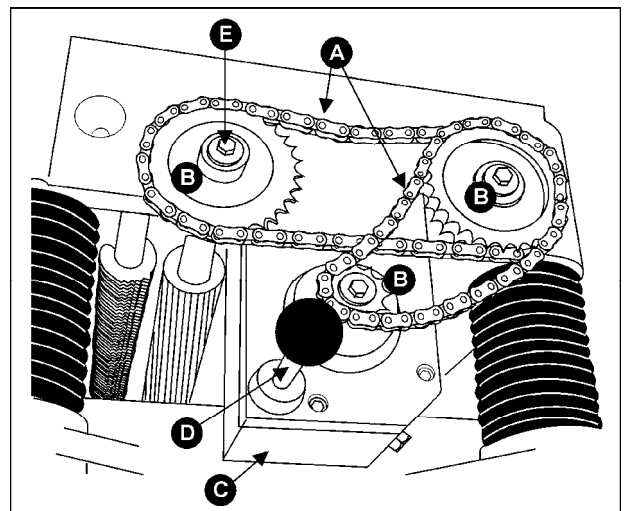
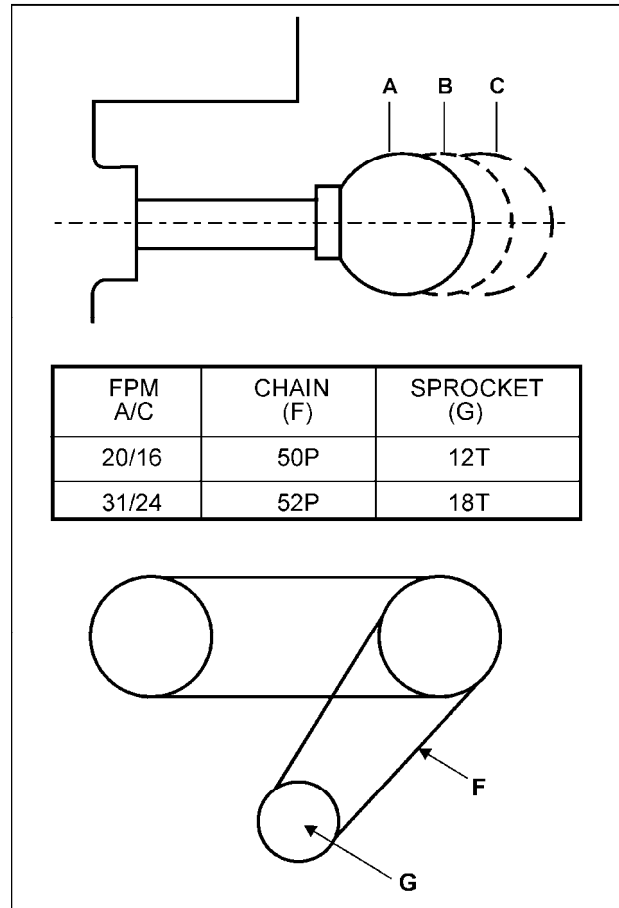

Fig. 28
Fig. 29
Your machine is equipped with a spiral, serrated infeed roller and a solid outfeed roller. When the feed rollers are engaged, they turn to feed the stock. The feed rollers slow automatically when the machine is under heavy load for best planing in all conditions. The feed rollers are driven by chains (A, Fig. 28) and sprockets (B, Fig. 28) which take power directly from the cutterhead through the oil bath gear box (C, Fig. 28).
The gear box has two feed speeds. These are set by pulling out or pushing in the shift lever (D, Fig. 28) while the machine is running. The feed speed range is shown in Fig. 29.
The lowest feed speed for your planer (16.2 fpm & 20.7 fpm) can be obtained by replacing the lower (gear shaft) sprocket and the chain. See Fig. 29. To change the sprocket and the chain on your machine, proceed as follows:
2. Remove the three hex cap screws and washers (E, Fig. 28).
3. Remove the three sprockets (B, Fig. 28) from the infeed roller, outfeed roller and the gear shaft at the same time.
4. When the sprockets (B, Fig. 28) are removed, replace the lower sprocket which will be assembled on the gear shaft.
5. Assemble the three sprockets and chains to the shafts, and tighten the hex cap screws (E, Fig. 28).